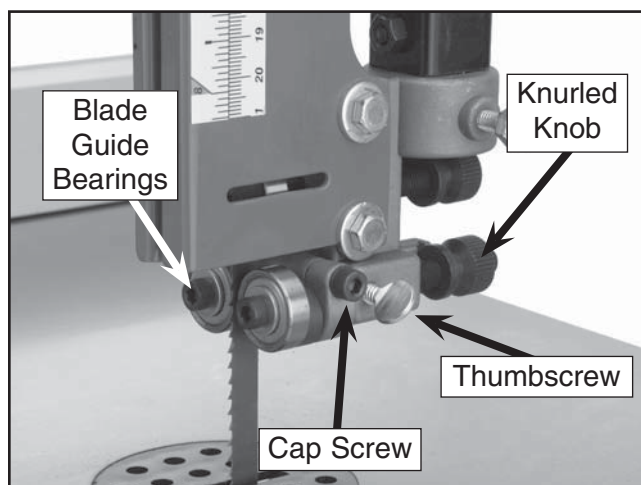

Figure 22. Blade guide controls.
3. Familiarize yourself with the blade guide controls shown in **Figure 22**.